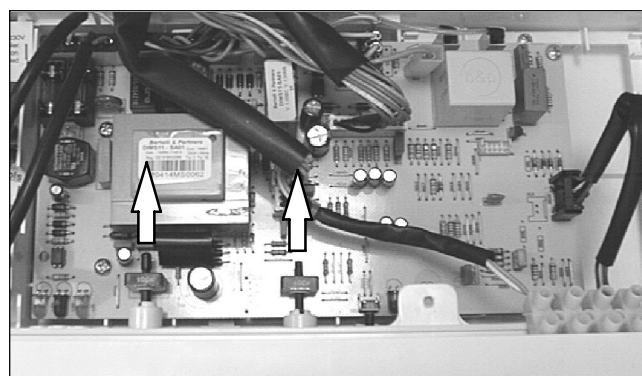

Fig. 48
- 3 Remove the spindles of the c.h. and d.h.w. temperature adjustment knobs by delicately pulling them with pliers in the direction shown by the arrows in Fig. 48.